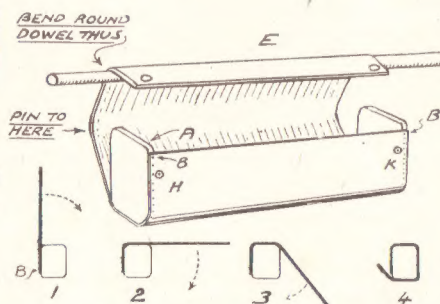

Fig. 3—Assembling the bag parts
The putting together of end-pieces and sheet is carried out as Fig. 3, and the central composite has to be carried round the sections (A) and secured by a close series of short but fairly large-headed 'pins'.